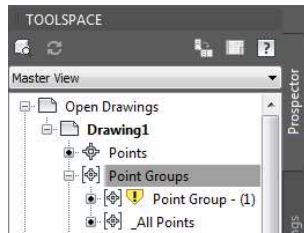

Figure 2-45 The symbol corresponding to the **Point Groups** indicating the out of date point group
A point group is called out of date if you add or delete points, or modify properties such as elevation or description of points included in the point group. The out of date point groups are indicated by a yellow symbol displayed in the **Prospector** tab on the left of the point group name, as shown in Figure 2-45. The **Point Group - (1)** is out of date as indicated by the symbol on the left. This shows that some changes have been made in the point group.